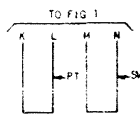

FIG 5
58- SPECIFY 1 FIG 5 FOR EACH UNIT TO PROVIDE THRU SUPERVISION ON ALL TRK CALLS.
60- WHEN ACCORD UNIT IS EQUIPPED PER FIGS 1, 2, 3, 4, 5 AND 6 IS TO BE OPERATED PER FIGS 1, 3 & 5, THE (AD) RELAY SHALL BE REMOVED AND FIG 5 ADDED.
61- WHEN CORD UNIT IS EQUIPPED PER FIGS 1, 2 & 5 AND 6 IS TO BE OPERATED PER FIGS 1, 3 & 5, THE (AD) RELAY SHALL BE REMOVED AND FIG 5 ADDED.